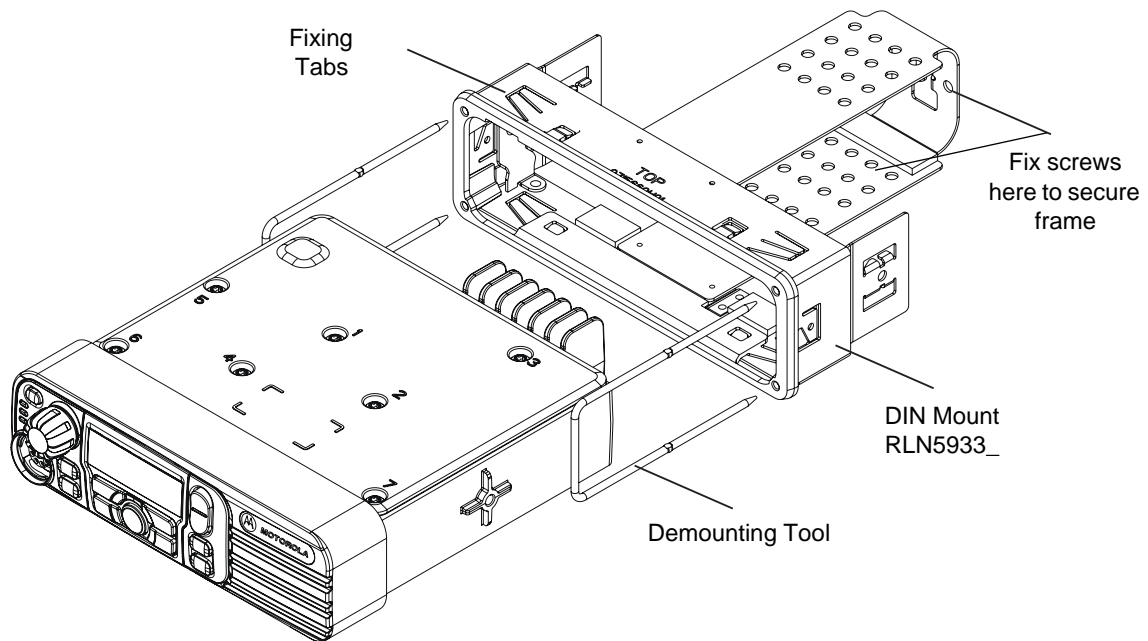

Figure 2-9 Dashboard Mounting for MOTOTRBO XPR 4000/XPR 4000e Series
2. Plug in all the connectors and push the radio firmly into the mounting frame until the two springs snap into place (shown in Figure 2-9).